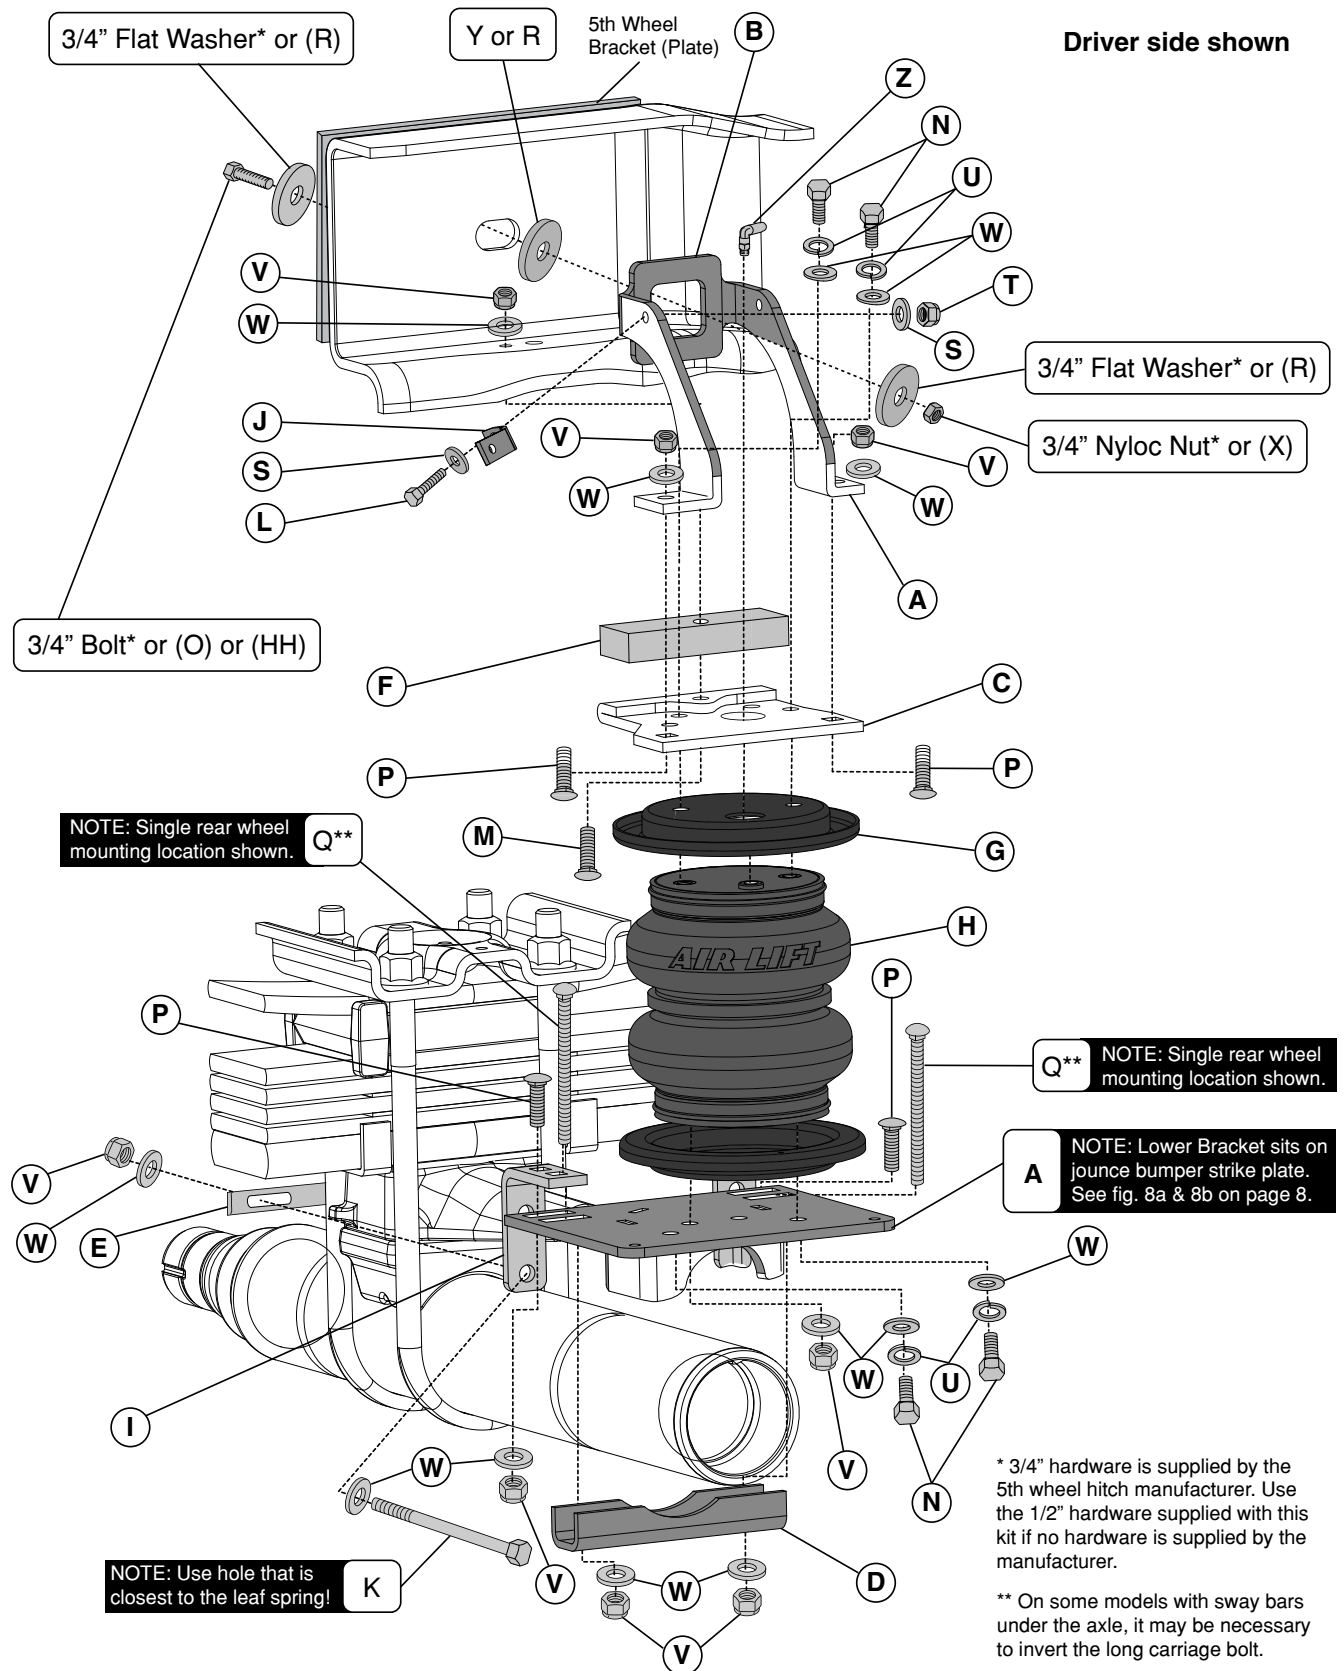
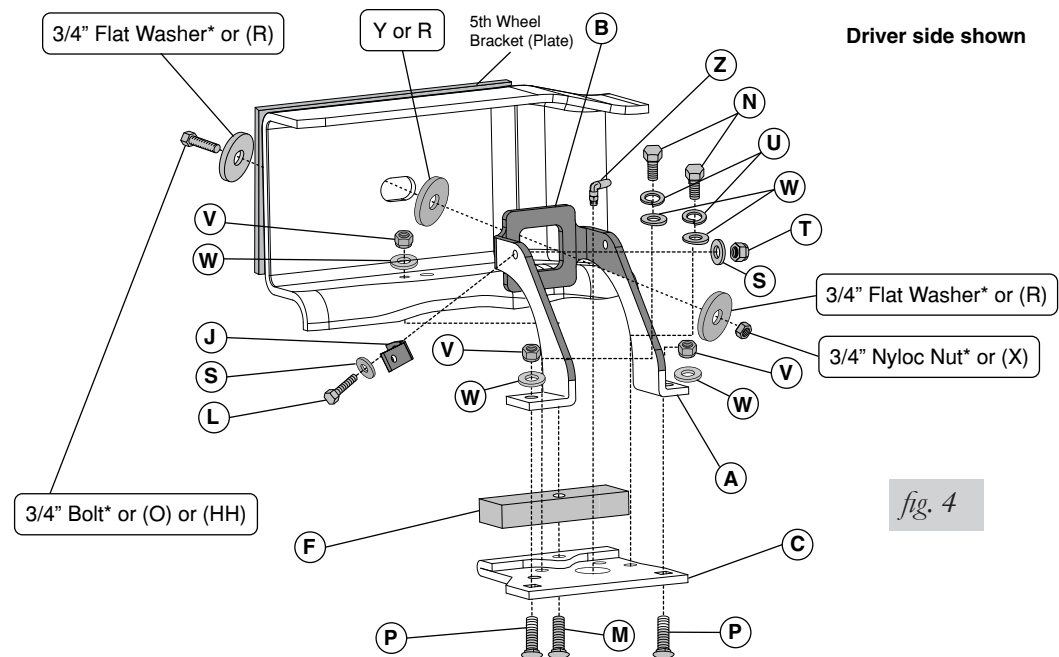

fig. 1
fig. 4
5. If you have a fifth wheel hitch already installed, it will be necessary to remove the $\frac{3}{4}$ " hardware that bolts the side bracket to the outside of the frame above the axle (fig. 1).
- *Attach the L-bracket (J) to the back frame brace using the 1/4" bolt (L), flat washers (S) and nyloc nut (T) supplied (fig. 1). This L-bracket will eventually be used to attach the previously removed emissions line. Do not attach the line holder to it at this time.*
1. Set the upper brace (B) into the driver and passenger side frame (fig. 4).
If you have an aftermarket fifth wheel hitch that has a bracket (plate) running alongside of the frame and it used the slot to secure the bracket to the frame with existing hardware, install the existing hardware previously removed in the “getting started section” from the fifth wheel installation for securing the brace (fig. 4). Make sure to install the large 3/4” flat washer (Y) between the brace and the frame (fig. 1 and 4). Do not tighten at this time.
1. Set a roll plate (G) over the top and bottom of the bellows (H) (fig. 1).
2. Set the left (driver side) assembly onto the jounce bumper strike plate (figs. 8a & 8b). Raise the axle just enough to insert the long carriage bolt (M - that is installed in the upper bracket) through the existing jounce bumper hole in the bottom of the frame. At the same time, line up the upper brace previously installed onto the remaining two carriage bolts (P) in the upper bracket. Do this just enough for the carriage bolt to hold the assembly into position on the jounce bumper strike plate (figs. 1 & 8b).
3. Set the right (passenger side) assembly into position on the axle the same way the left side was positioned (fig. 1).
4. Raise the axle or lower the frame down so that the thick spacer (F) on the upper bracket is parallel to, and contacts the frame (on both sides).
5. Install the 3/8" Flat Washer (W) and a 3/8"-16 Nyloc nut (V) on the carriage bolt (M) that went through the existing jounce bumper hole and tighten securely on both sides (fig. 1).